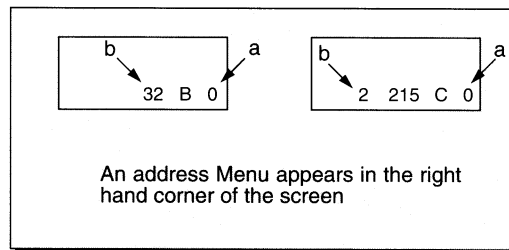

Figure 15. **Serviceman Mode Menu Adjustments.**
**Note:** Only the applicable settings for the Receiver serviced will be available (See a in Fig. 15).
1. Press **Channel Up/Down** on the **Remote Control** to select one of the available **Service Adjustments** (a in Fig. 15).
*Note: Write Down the original value set (b in Fig. 15) for each address before modifying anything. It is easy to erroneously adjust the wrong item.*
2. Press **Volume Up/Down** on the **Remote Control** to adjust the level of the selected **Service Adjustment** (b in Fig. 15).
1. Press Channel Up/Down on the Remote Control to select one of the available Service Adjustments (a in Fig. 15).
**Note:** Write Down the original value set (b in Fig. 15) for each address before modifying anything. It is easy to erroneously adjust the wrong item.
2. Press Volume Up/Down on the Remote Control to adjust the level of the selected Service Adjustment (b in Fig. 15).